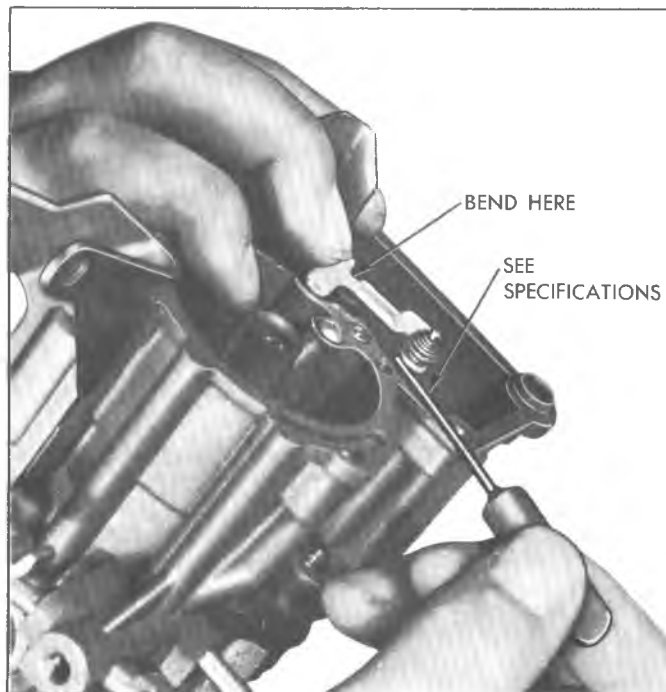

Fig. M9--Metering Rod Adjustment
Metering Rod Adjustment (Fig. M9)
2. With throttle valve completely closed, apply pressure to hanger directly above power piston and hold piston down against its stop (See Fig. M9).